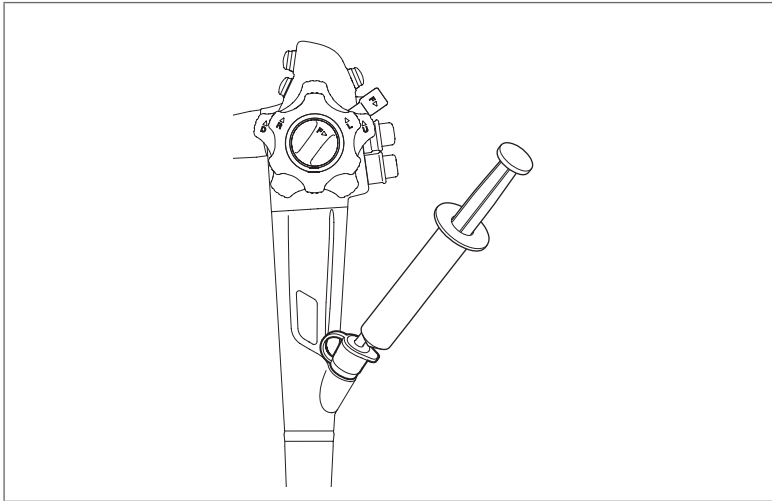

Figure 3.56
2. Put the distal end of the endoscope to the clean container, and insert a syringe filled with sterile water into the inlet seal (OF-B190) as shown in Figure 3.56.